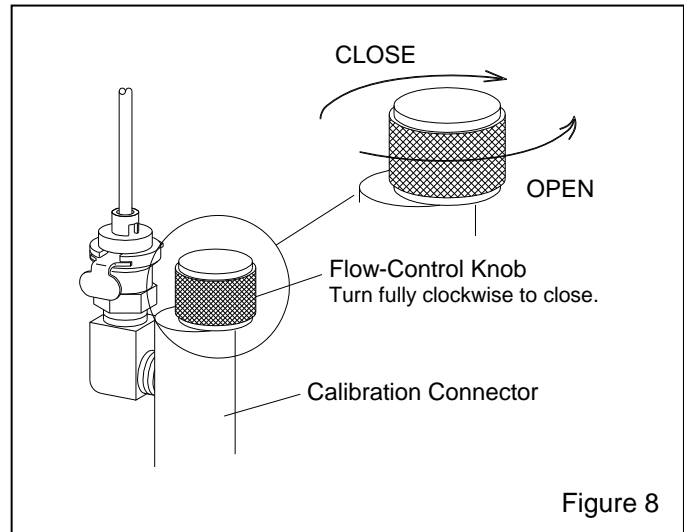

Figure 8
4.6.3 Refer to Figure 8 and slowly open the flow-control knob on the calibration connector to introduce test gas. Test gas is entering the unit when the flow meter ball rises. If the ball does not rise when the calibration valve is opened, the test gas cylinder may be empty.
5.6 Refer to Figure 8 and slowly open the calibration flow-control valve to introduce test gas. Test gas is entering the unit when the flow meter ball rises. If the ball does not rise when the calibration valve is opened, the test gas cylinder is probably empty.